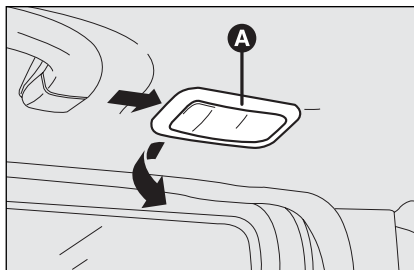

fig. 47
- ☐ using the screwdriver provided in the kit, remove the cover **A**-fig. 47 in the point shown by the arrow;